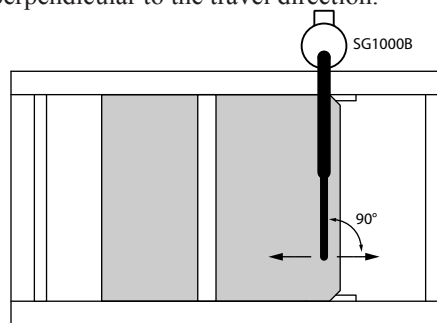

Figure 8:
4) Run the gate to the position that places the Telescopic-Arm in a perpendicular 90° position to the gate's linear travel direction. See Figure 8.